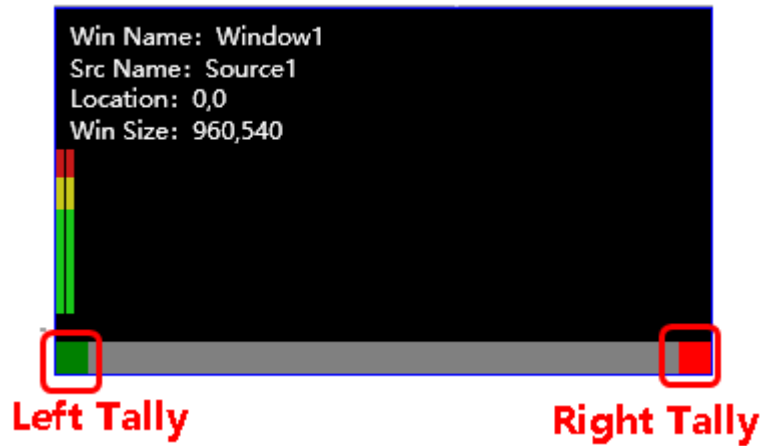

Figure 3.4.28 Tally and UMD
- **TALLY and UMD**: it will display the left Tally indicator, the right Tally indicator and the UMD characters by ticking off Left Tally Enable, Right Tally Enable and UMD Enable, the background of UMD is gray, as shown in Figure 3.4.28: